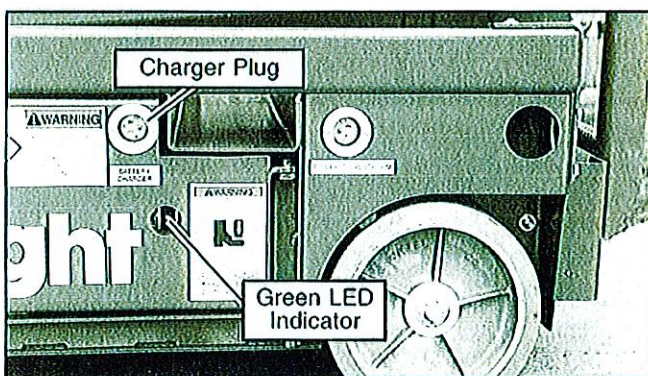

Figure 7: Chassis Module, Left Side
3. Connect extension cord (1.5 mm² (12 guage) conductor minimum and 15 m (50 ft.) in length maximum) to charger plug located through cutout at the left side of the chassis (Figure 7). Connect extension cord to properly grounded outlet of proper voltage and frequency.